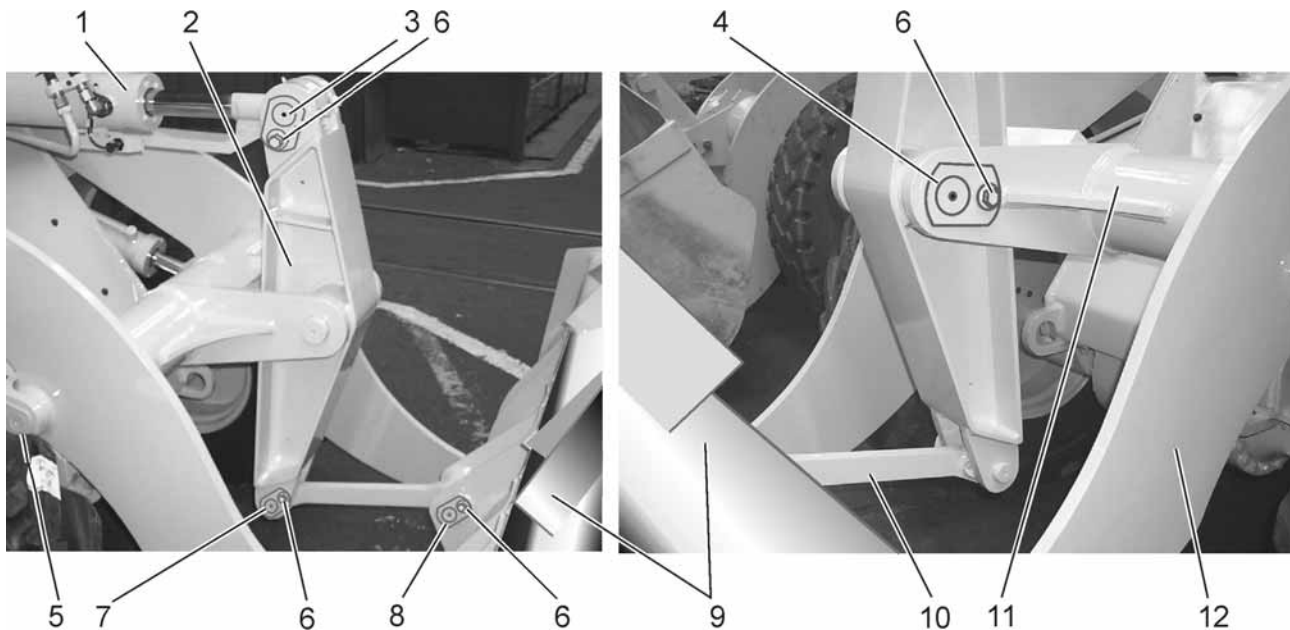

Fig. 17.6. Lever and Bucket Link Disconnect Points
1. Lower the bucket (9, Fig. 17.6) to the ground level and attach a hoist to the bucket link (10).
2. Unscrew the bolt with washer (6) securing the pins (8) to the bucket (9).
4. Unscrew the bolt with washer (6, Fig. 17.6) securing the pins (7) to the lever (2) and remove pin (7) with shims (12, Fig. 17.2) using copper hammer 1.519.0142.
5. Lift the bucket link out of the machine and remove the seal rings (6) from their grooves in the bucket link eyes.